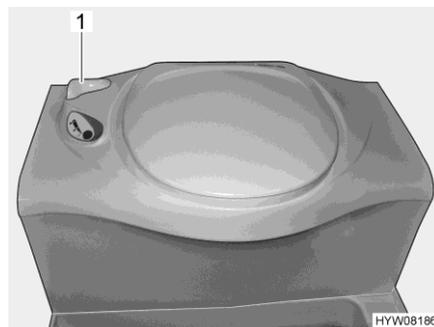

Fig. 299 Thetford toilet
- Before flushing open the sliding trap of the Thetford toilet. To do this, turn the slide lever (Fig. 299,1) in an anticlockwise direction.
- After flushing close the sliding trap. To do this turn the slide lever (Fig. 299,1) in a clockwise direction.